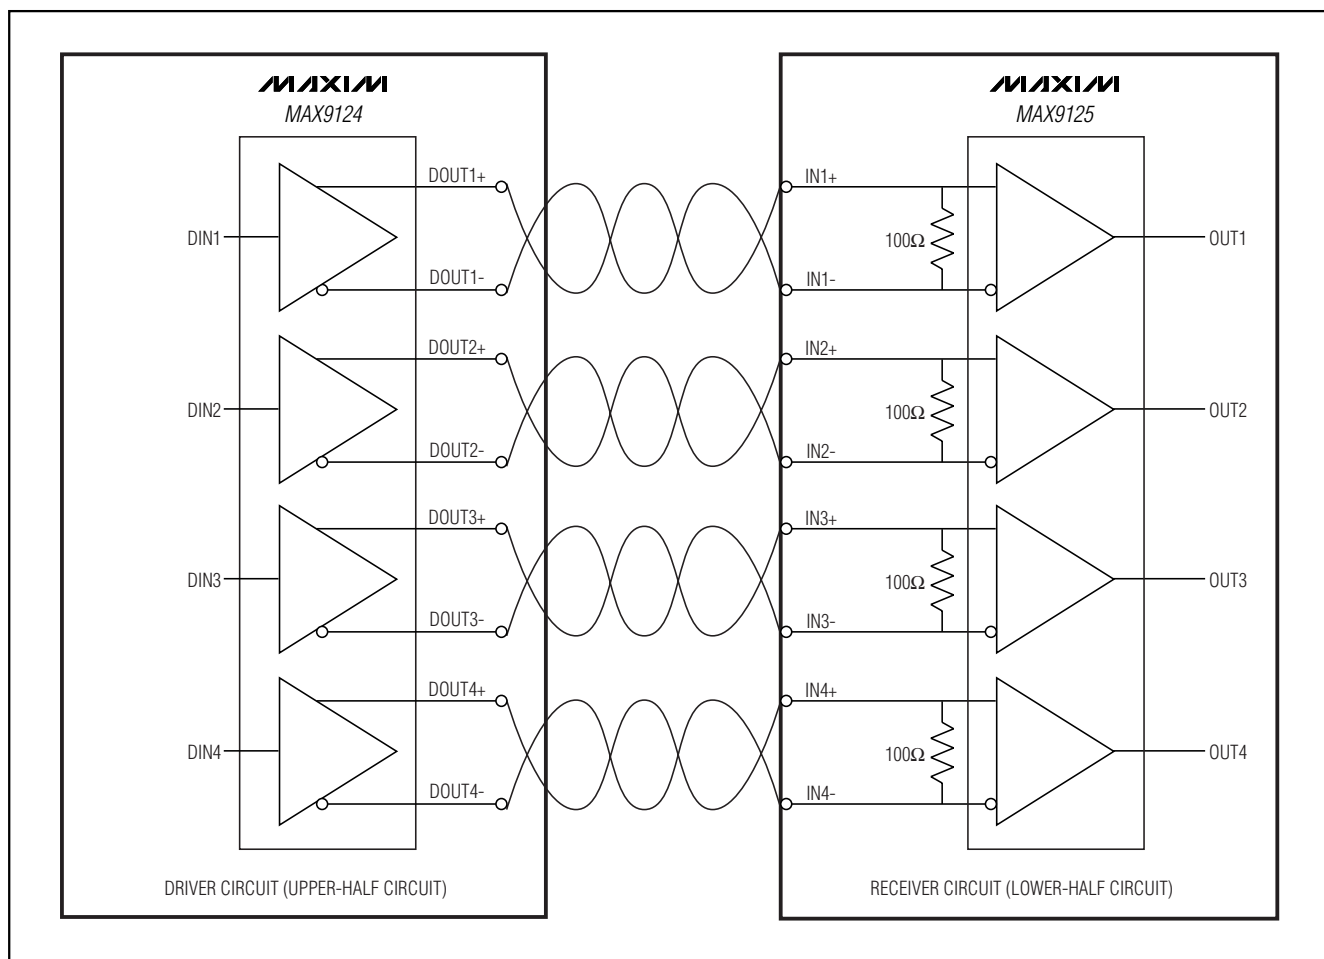

Figure 1. Twisted-Pair Cable Interconnect Diagram
- 3) Connect a scope probe across jumper JU25 (OUT1). Use 100 $\Omega$  twisted-pair cable to connect the driver outputs to the receiver inputs as shown in Figure 1.